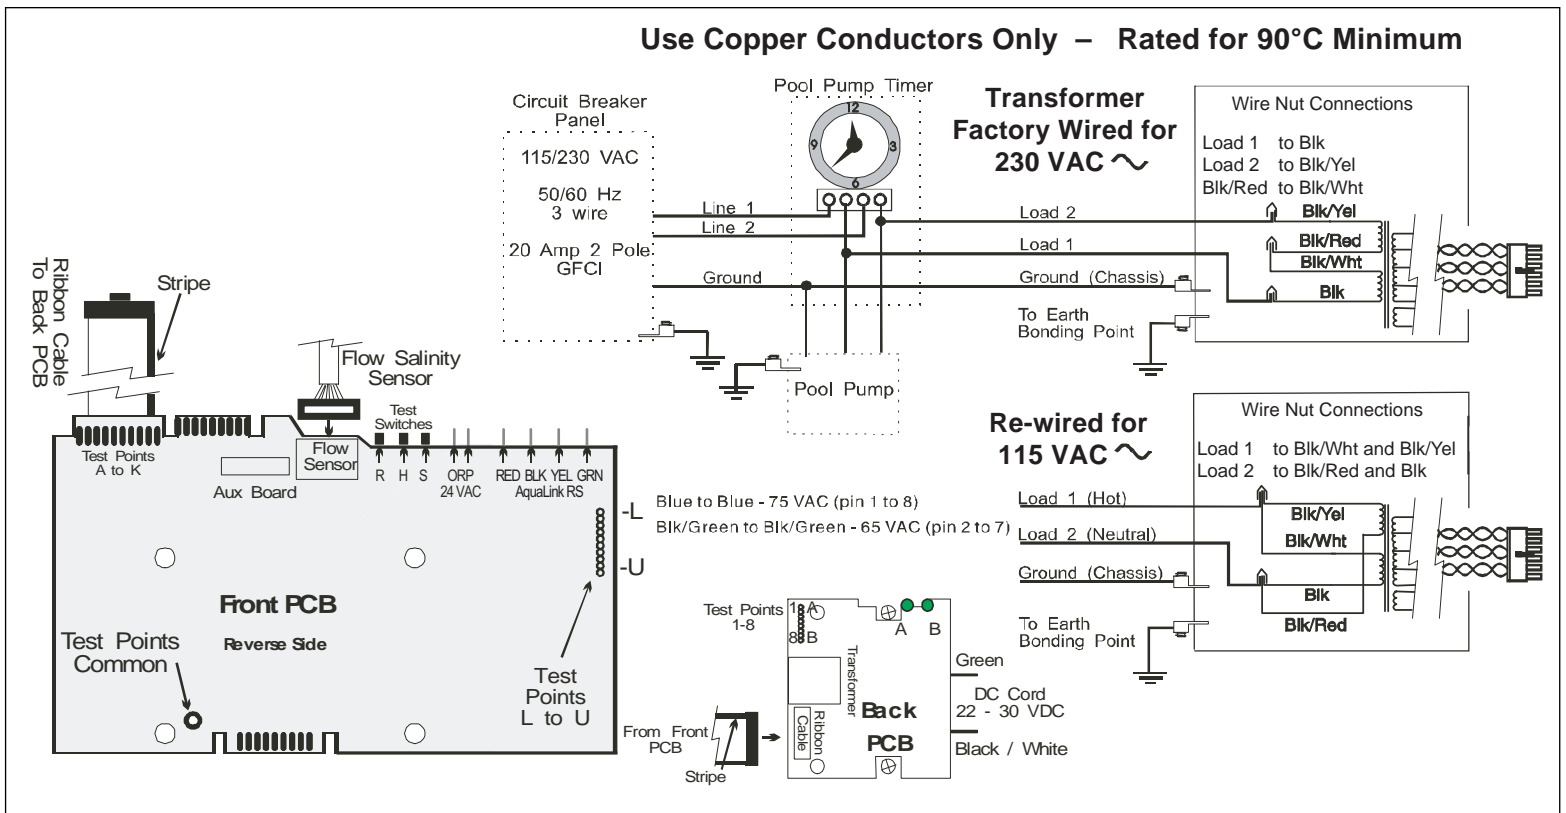

Figure 2. PURE700 and PURE1400
Factory wired for 230 VAC service. If available electrical service is 115 VAC, the power supply wiring must be changed to operate on 115 VAC as shown in the wiring diagram below. (Figure 2.)
4. Check source voltage. (All units are factory wired for 230 VAC). **In order to use on 115 VAC, the internal factory wiring of the control center must be changed. (See wiring diagram page 6 Figure 2).**
5. Use #12/3 insulated wire and conduit. Wire control center transformer to pool pump power source. The control center should be connected to the pump motor switch or automatic timer (Pool Pump Timer) as shown in the diagram on page 6 Figure 2. **The flow portion of the Flow/Temp/Salinity Sensor is a backup device only.** Attach the third wire (Ground) from the electrical panel to the ground point inside the Control Center. **Earth bonding in Section 3.4 must also be accomplished to insure personal safety and safety of equipment.**
9. Feed the connector end of the Flow/Temp/Salinity Sensor cable through the DC cord strain relief fitting located in the bottom of the control center back plate (chassis). **Be certain the connector is clean and dry**, then plug the cable into the connector on the control center Printed Circuit Board as shown on page 6 Figure 2. **(Do not pull Flow/Temp/Salinity Sensor cable too tight, allow a little slack).**
11. Connect the DC cord to the Control Center. Feed the DC cord through the same strain relief fitting as the Flow/Temp/Salinity Sensor. Plug the DC cord into the two push-on connectors located on the control center Printed Circuit Board as shown in Figure 2 on page 6.
14. Plug the ribbon cable attached to the front cover PC board into Printed Circuit Board mounted on back plate (See page 6 Figure 2). Now reattach the control center front cover to the back plate.